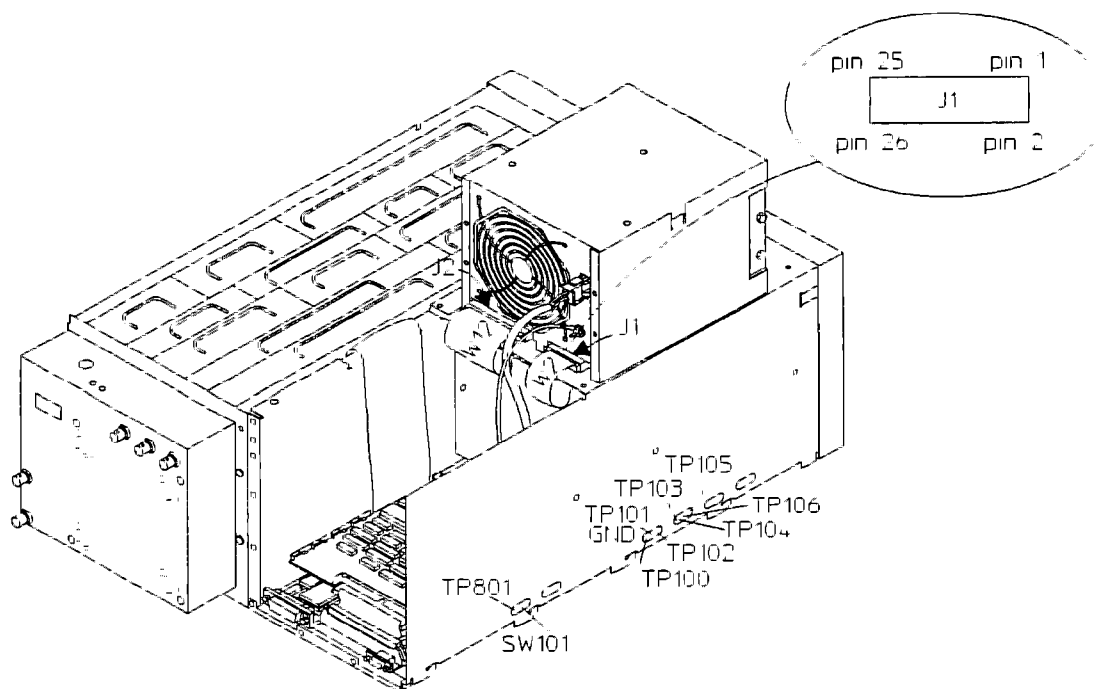

Figure 5-3. Initial Verification Test Locations
- Set the power switch to ON (I). Check the voltages in table 5-4 (see figure 5-3).
- b. Set the power switch to ON (Ⓛ). With a logic probe, check J1 pin 13 (PVALID) on the Power Supply assembly for a TTL logic high (see figure 5-3). If the signal is incorrect, the Power Supply assembly is faulty.